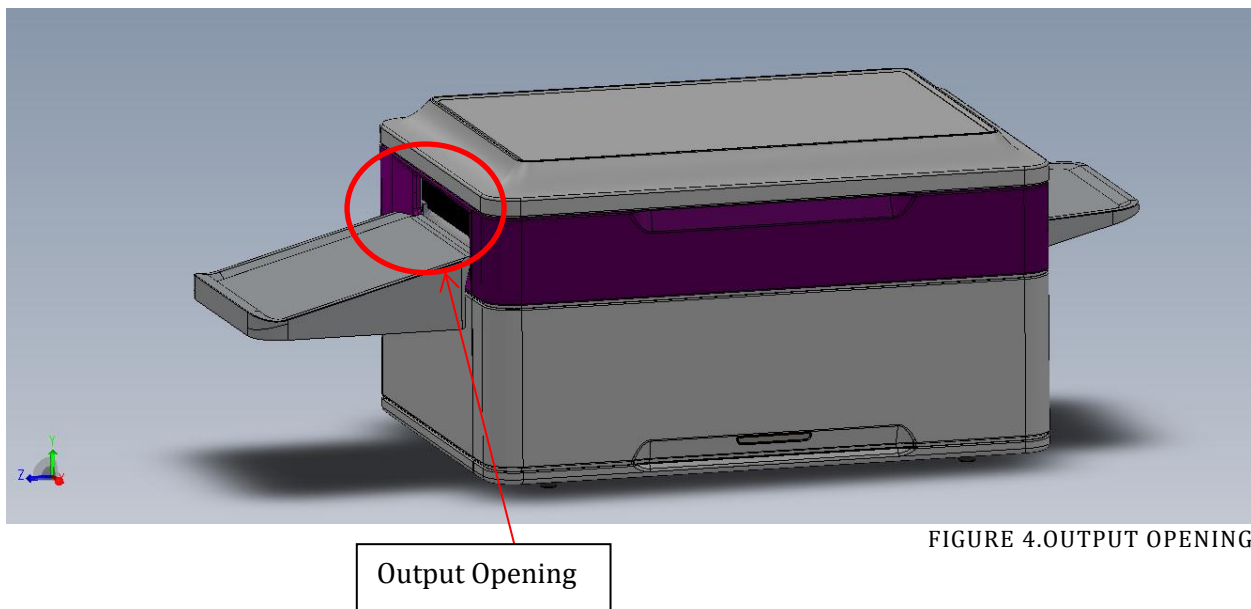

FIGURE 4.OUTPUT OPENING
- d) The device will be processed through ALUVIS and delivered to the Output Opening as shown in figure 4